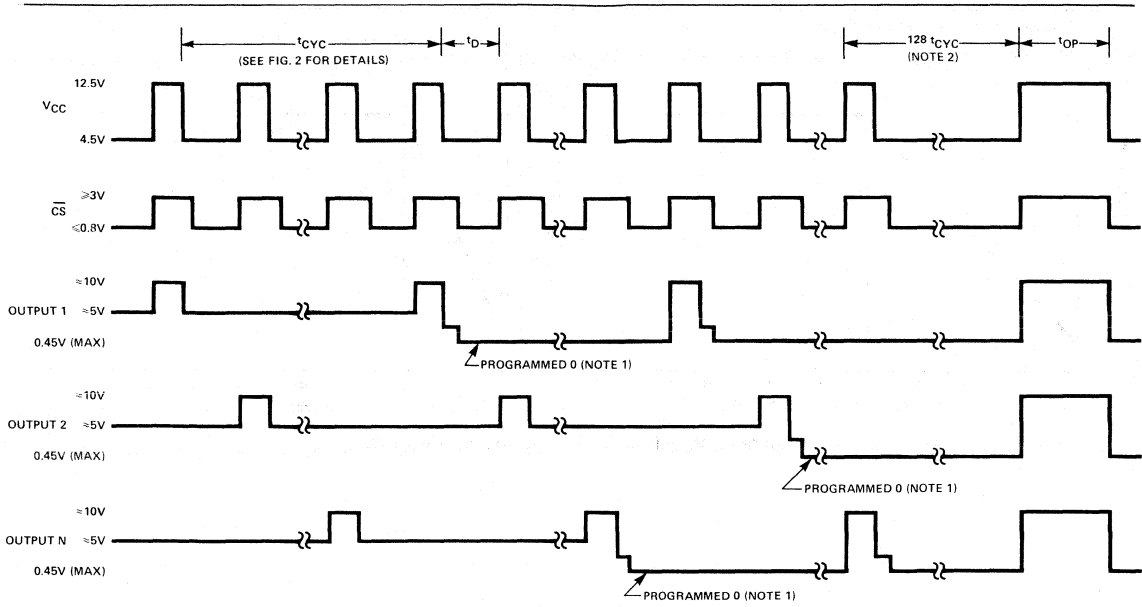
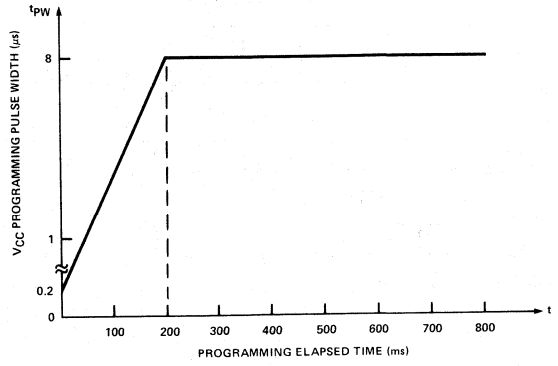

Figure 1. Programming Cycles.
Figure 3. VCC Pulse Width vs. Programming Time.
The programming specifications are given in Table V and the programming waveforms are shown in Figure 1. The programming procedure (described with nominal specifications) is as follows:
1. A 5 mA current must be forced into the output to be programmed by a current source. The current source must be clamped to V_{CC} by a silicon diode. All the other outputs must be floating until it is their turn for programming. The V_{CC} power supply and the chip select (\overline{CS}) input is pulsed as shown in Figures 1 and 2. The width of V_{CC} is linearly increased from 0.2 μ s to 8 μ s according to the ramp time shown in Figure 3. The total ramp time for a group of four outputs is 180 ms and 360 ms for a group of eight outputs.
2. All outputs must be continuously monitored for programming verification. This verification must occur after V_{CC} has been at 4.5V for 90% of t_D and prior to V_{CC} rising to 12.5V. The program/verification cycles must still be applied (with the pulse width still linearly increasing to a maximum of 8 μ s) even though the output has been sensed as being programmed. An additional 128 verifications (i.e., 128 program/verify cycles) on each output must be obtained to insure a correctly programmed output. This additional 128 verification is a minimum number and must occur *after* all the bits of the word are sensed as being programmed. Please refer to Figure 1 for the timing waveforms.